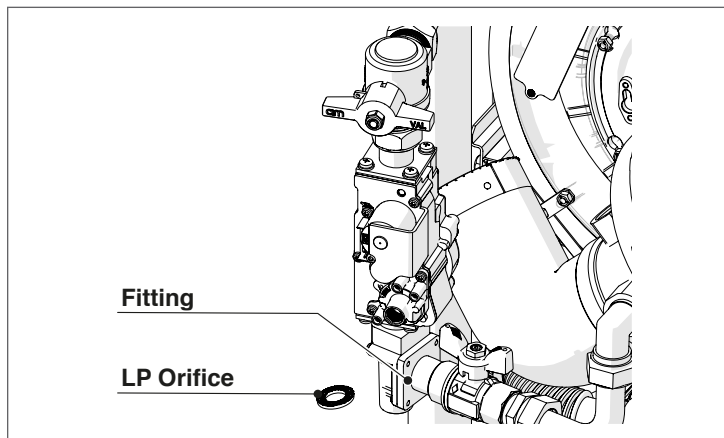

Fig. 18 Natural Gas to LP Gas Conversion
- Unscrew the swivel joint indicated in Fig. 18 to separate the valve from the connection pipe with the fan
- Place the provided metal orifice (Fig. 18) between the two gaskets (N° on orifice: 9.5)